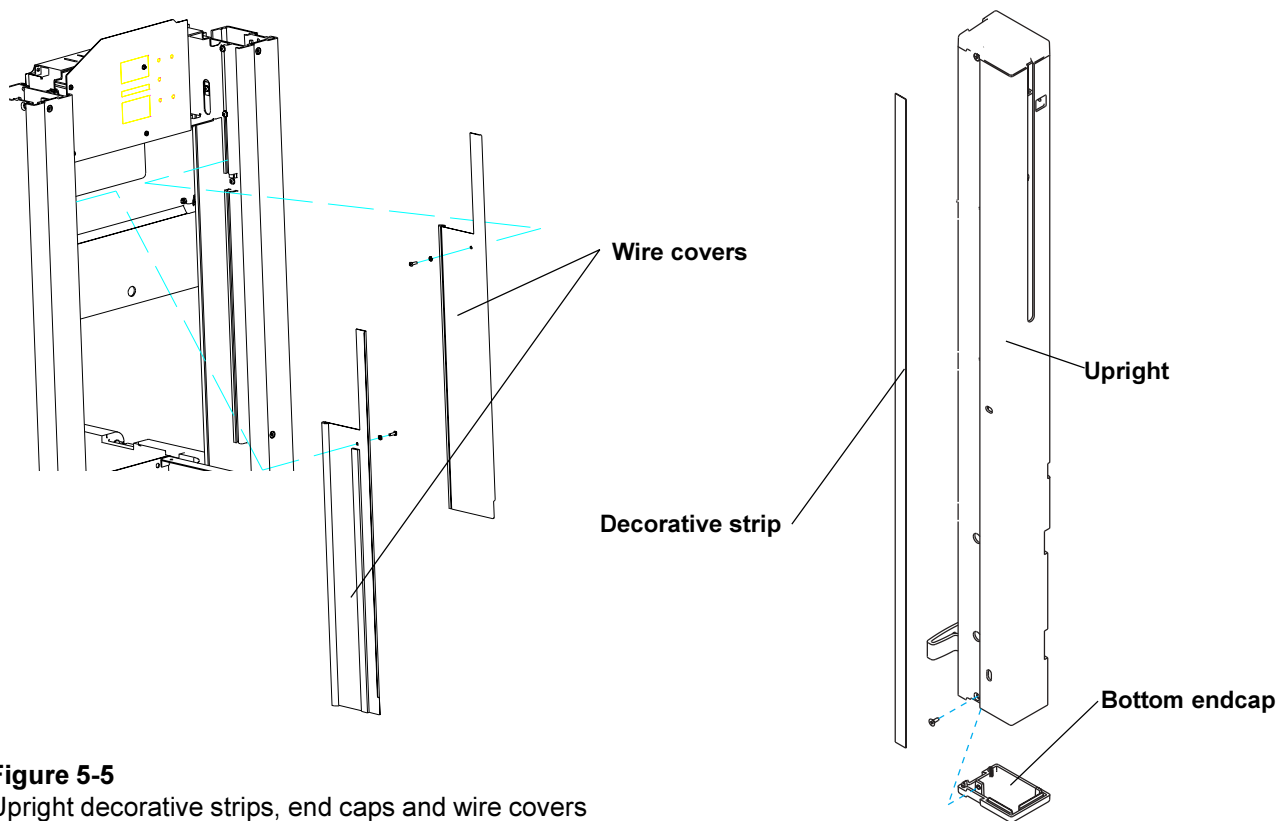

Figure 5-5
1. After removing the right rail, use a punch that is smaller than .090 to drive out the motor pin (item 18 on page 6-27).
2. To remove the slip clutch (item 4), tap out the axle (item 2 on page 6-27).
5.24 Reassembling the right upright (Figure 5-5, 5-8, 5-14 and 5-17)